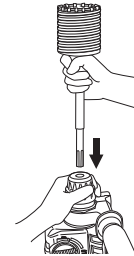

Fig. 19
- (2) Mount the core bit shank to the rotary hammer. (Fig. 19)